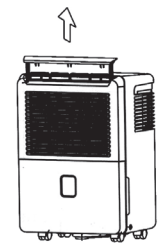
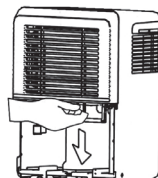

Fig. 10
Fig. 11
- Remove the filter from the top of the unit (See Fig. 10), or to remove the filter, remove Bucket then pull filter downwards (See Fig. 11).